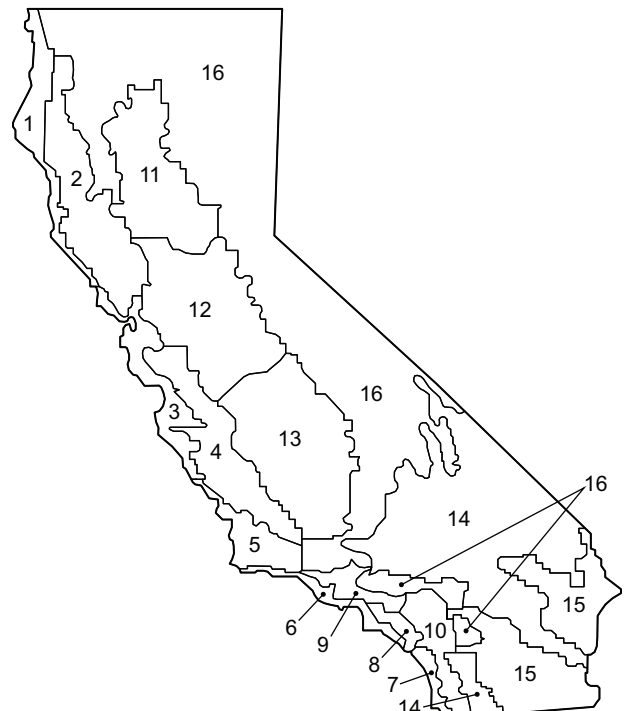

Fig. 87 – California Title 24 Zones
b. See Fig. 87 for map of California Title 24 zones.